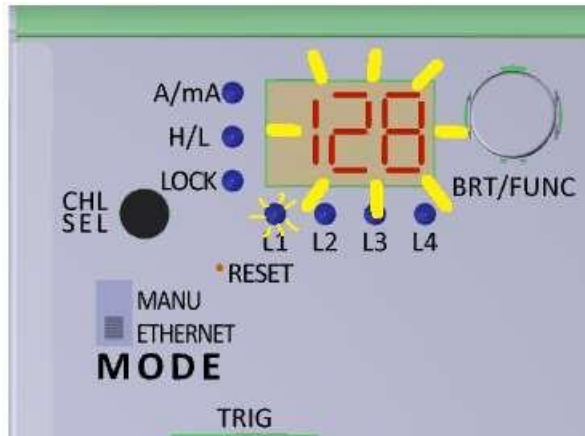

Fig 14. Power limit will transfer to current & display after Power test procedure.
- The current limit value will be showed on Display by 3~5 second flash. (Fig 14)